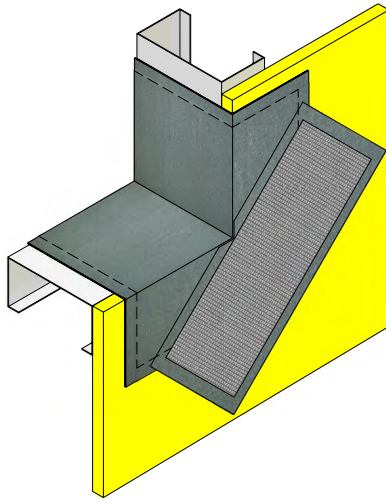

Figure 9
5. Cut Sheathing Fabric to desired size. Place the Sheathing Fabric into the wet Senershield-R/-RS/-VB. (See Figure 9)